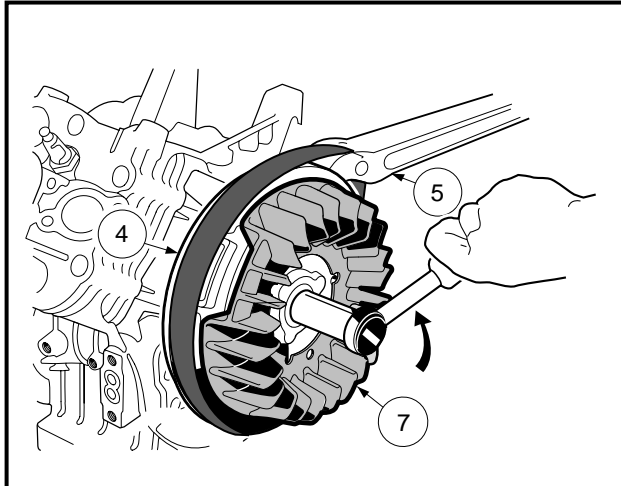

Figure 13-63 Flywheel Nut Removal
3. Hold the flywheel (4), **not the fan** (7), with a strap wrench (5) and, using a 25 mm socket, remove the flywheel nut (and flat washer) by turning it counterclockwise (**Figure 13-63, Page 13-32**). **See following CAUTION.**